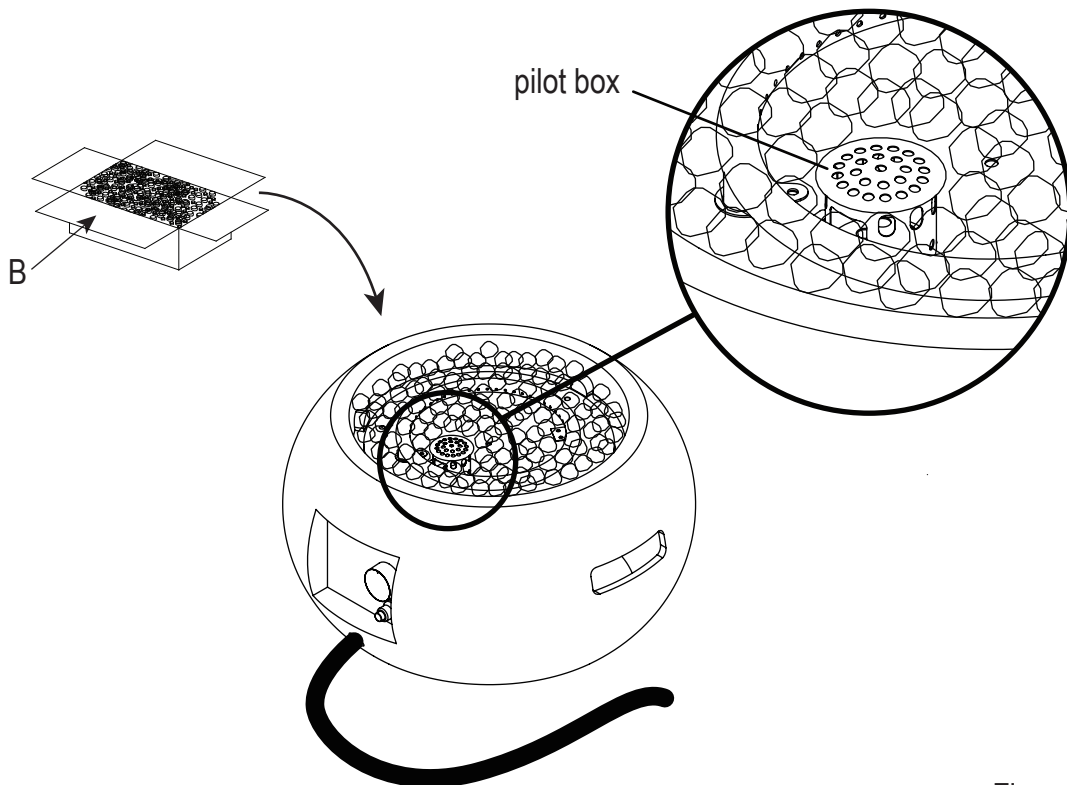

Figure 2
- Open the box of lava rocks, put the lava rocks (B) into the fire bowl of the fire table (A), (See Figure 2). A gas fire pit requires 8.8 lbs lava rocks.